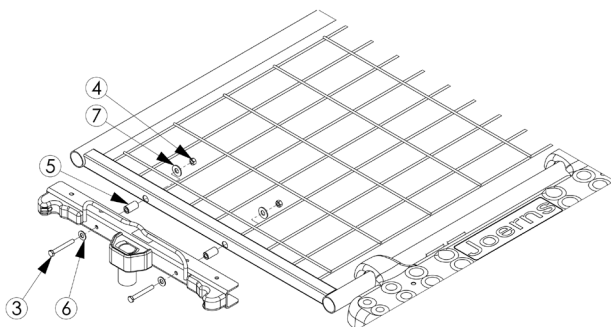

Figure 9
3. Orient the mounting channel (Item 2) with the bed as shown in Figure 9 on page 7.